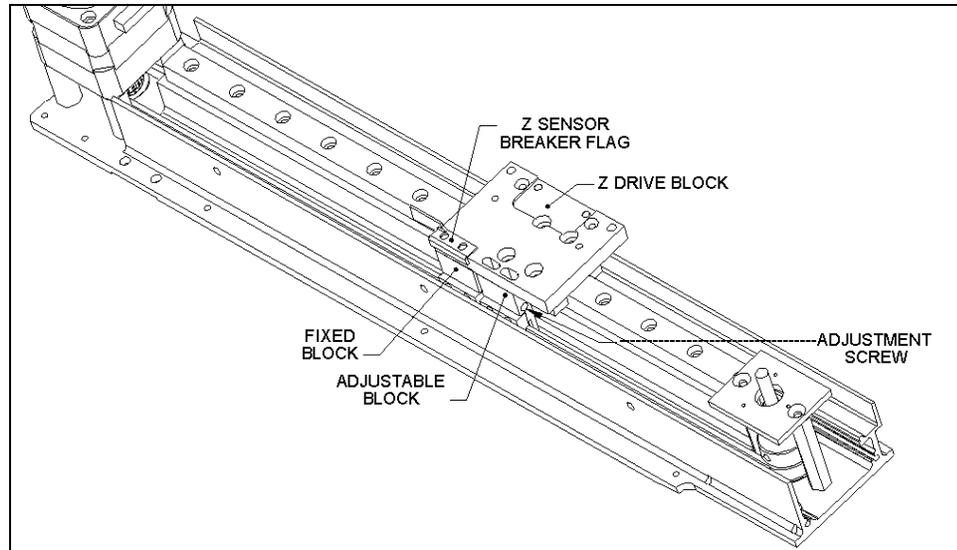

Figure 7-27 Mounting the Z Sensor Breaker Flag, Z-Drive Block, and the Linear Bearing Block
- 5 Place the Z sensor breaker flag (Part No. 204011300) on to the top of Z-drive block, attach the Z-drive block to the fixed block with two M3 X 12 cap head screws and apply Loctite 222 to the tightened screws (Figure 7-27).